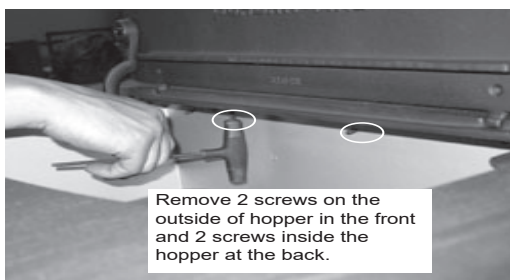

Figure 28.1
- d. Remove cast top from appliance. Two fasteners are located outside the hopper on each side. The other two are located in the hopper along the back. (**Figure 28.1**). Remove the rear screen of the appliance (be sure the vent is disconnected) by removing the seven screws. Lift slightly upwards as to not damage the hopper switch and set aside.